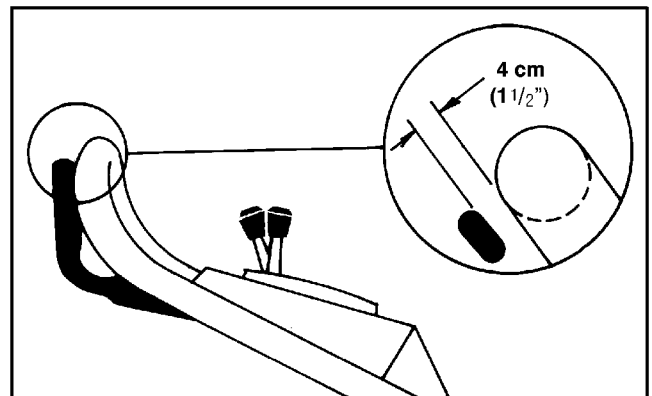

Figure 22
4. CHECK ADJUSTMENT—Adjustment is correct when control bar is about 4 cm (1 1/2 inches) from handle (Fig. 22) and wheels start to turn freely.